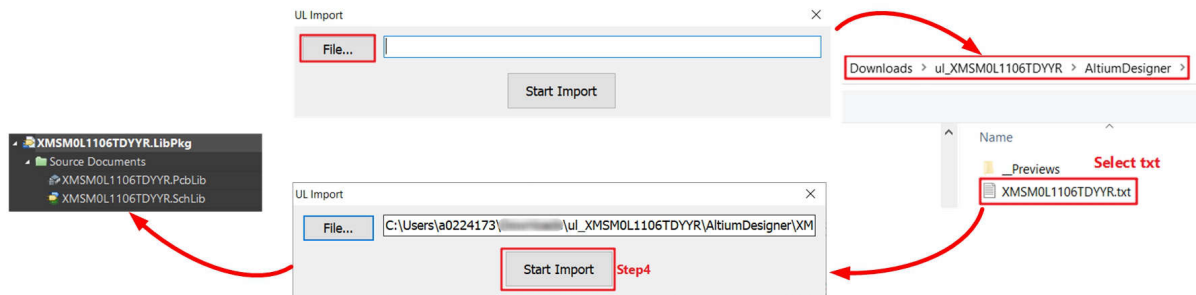

Figure 7-5. Generate Library
5. Generate the PCB library and schematic library as shown in Figure 7-5.